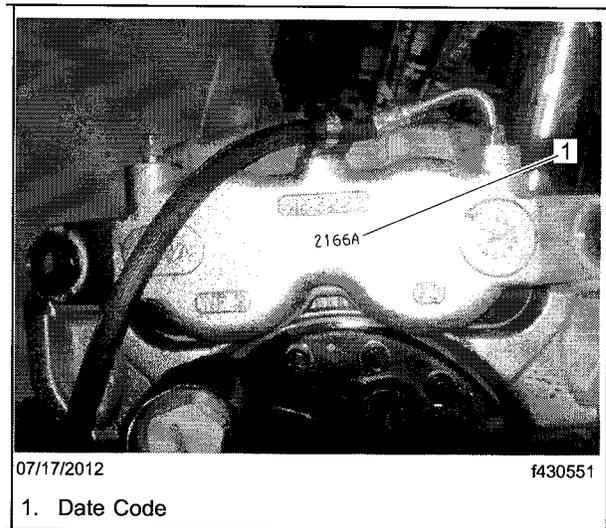

Fig. 1, Date Code Location on Caliper
4. Using a flashlight, inspect the caliper to determine the date code. See **Fig. 1** for an example of the date code and location. See **Table 4** for a list of affected date ranges. The alpha numeric date code for the caliper is made up of four digits and one letter; ignore the letter for this inspection.